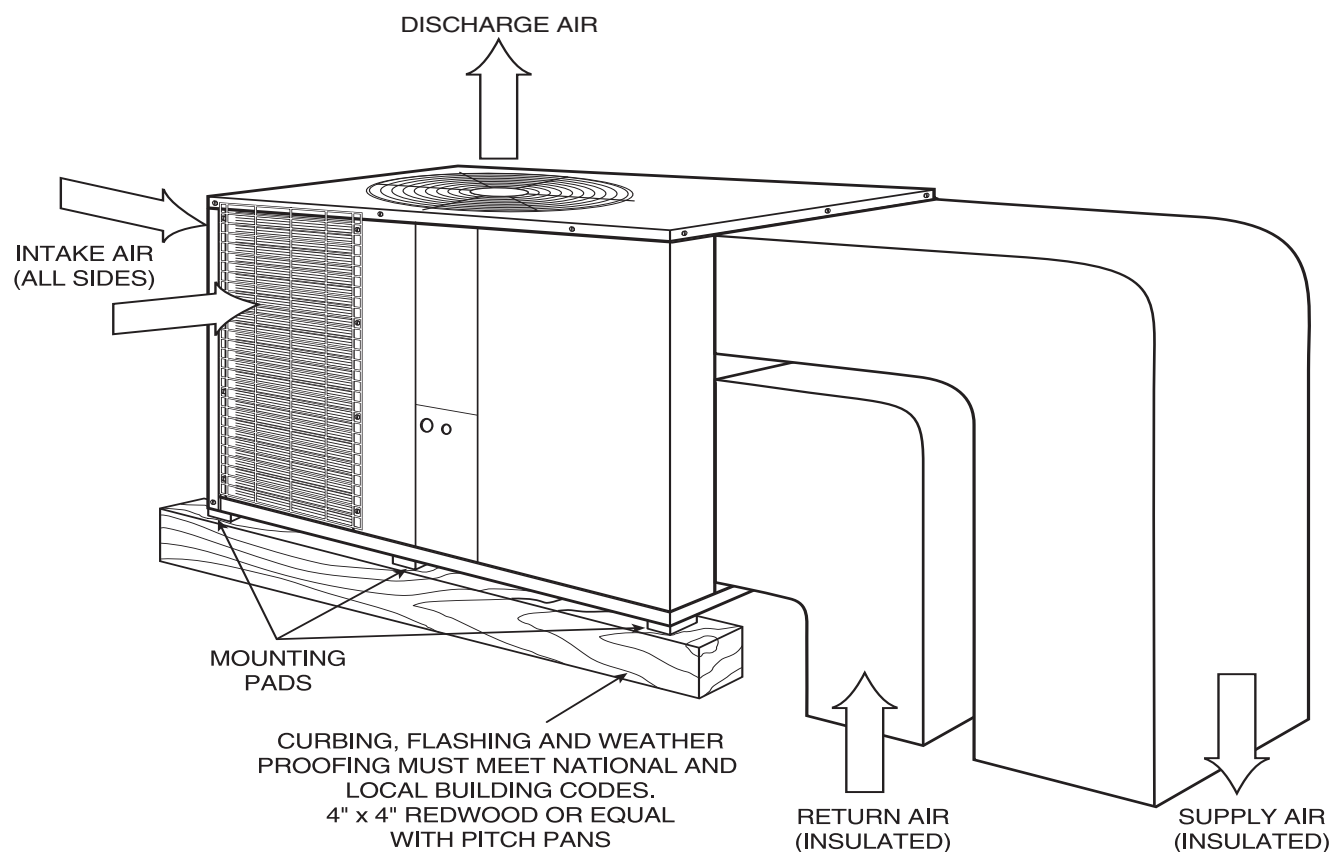

Figure 4. Typical Rooftop Frame Application
1. Locate and secure the frame to the roof by bolting or welding. See Figure 4 on page 8. Add flashing as required. Flashing must conform to local building codes.
8. Insulate any ductwork outside of the structure with at least two (2) inches of insulation and then weatherproof. There must be a weatherproof seal where the duct enters the structure.